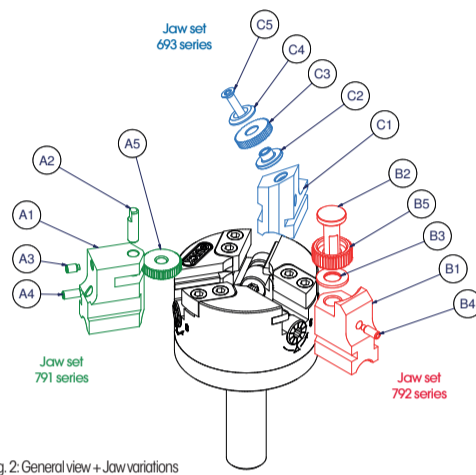

Fig. 2: General view + Jaw variations
Loosen the threaded pin (Fig. 2, Pos. A3) and screw in the rear threaded pin (Fig. 2, Pos. A4) so that the axle pin (Fig. 2, Pos. A2) can be removed. Then, change the knurling wheel (Fig. 2, Pos. A5) and fix it with the axle pin in the groove.
Loosen the threaded pin (Fig. 2, Pos. B4) and remove the shoulder bolt (Fig. 2, Pos. B2) and knurling wheel (Fig. 2, Pos. B5) and race (Fig. 2, Pos. B3). Fit the new knurling wheel with race on the shoulder bolt and clamp it with the threaded pin in the knurl holder. Align the clamping surface of the shoulder bolt so that it is tensioned by the threaded pin.
Completely loosen the lock screw (Fig. 2, Pos. C5) and remove the washer (Fig. 2, Pos. C4) and knurling wheel (Fig. 2, Pos. C3) and bearing bush (Fig. 2, Pos. C2). Then fit a new knurling wheel on the bearing bush and tighten screw it together with the jaw (Fig. 2, Pos. C1) with the lock screw.
Replace the axle pin (Fig. 2, Pos. A2), shoulder bolt (Fig. 2, Pos. B2), knurling wheel (Fig. 2, Pos. A5 + Pos. B5 + Pos. C3), bearing bush or race (Fig. 2, Pos. C2 + Pos. B3) and countersunk screws (Fig. 2, Pos. C5) and knurling wheels (Fig. 2, Pos. A5 + B5 + C5) after an appropriate number of cycles – no later than upon appearance of significant wear or deviating process parameters.
– If the screws loosen with use of the C693 series (Fig. 2, Pos. C5) during the process, use of Loctite is highly recommended.